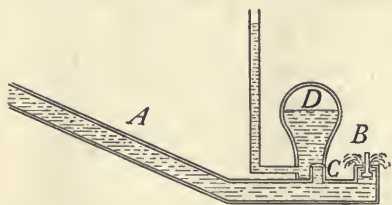

FIG. 47.—Cross-section of a hydraulic ram.
66. Hydraulic Ram.—The hydraulic ram (see Fig. 47) is an automatic device that is much used for raising water from springs to houses located on higher ground. Water flows through the pipe *A* through the opening at *B*. The pressure closes the valve at *B*. The increased pressure